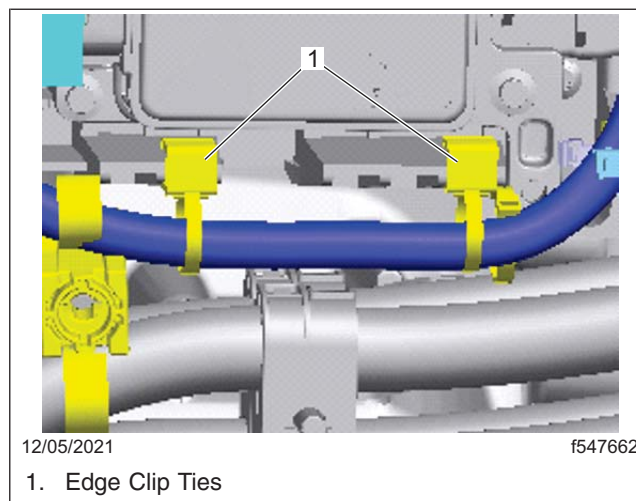

Fig. 5, Attaching the Harness to the Shift Controller with Edge Clip Ties
- 7.3 Secure the harness to the shift controller under the TCU, using the edge clip ties, as shown in Fig. 5.